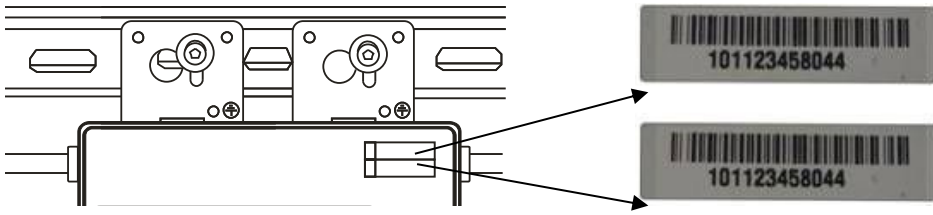
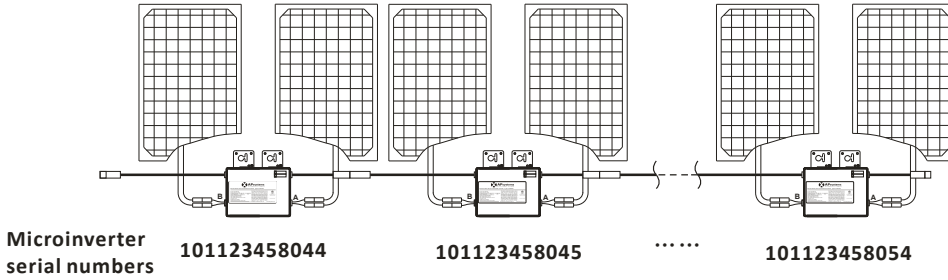

Figure 12
Figure 13
- a. Each APsystems Microinverter has removable serial number labels. Peel labels off, affix one to the respective location on the APsystems installation map, and fill in A,B in the label below(as figure13) according to the layout on the roof(as figure 12). Then affix another label to the PV module frame which is easy to see. The warranty cards can obtain from the appendix of this manual or APsystems website www.APsystems.com